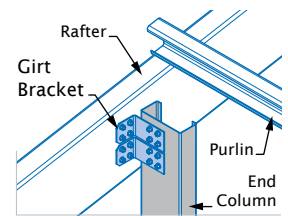

Figure 22
**Note:** In the situation where the door opening for sliding doors is greater than 4m and less than 8m, two girt brackets must be installed at the top of the end column (Figure 22).